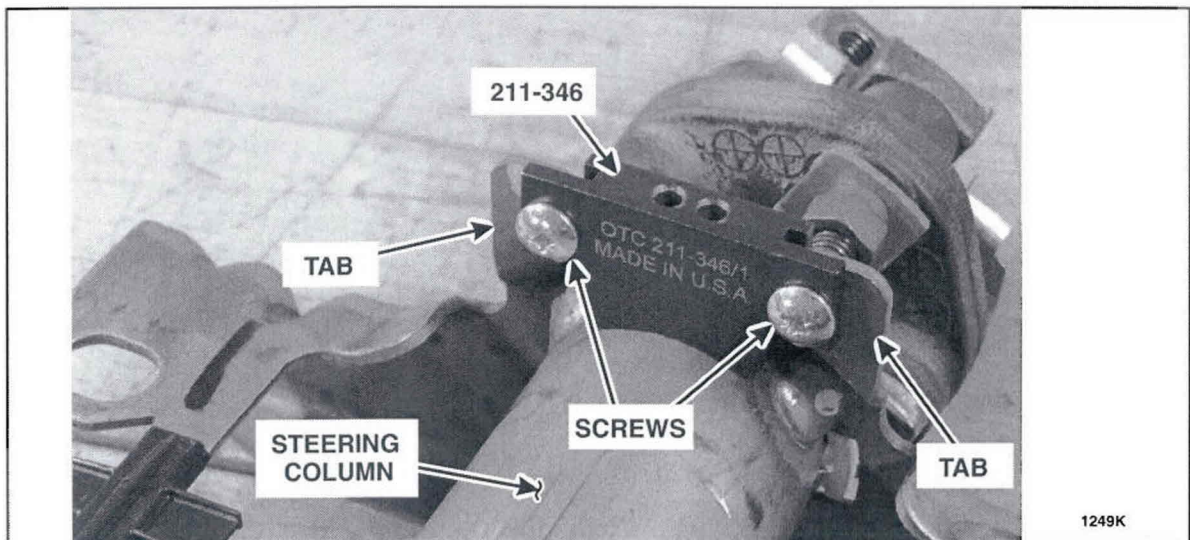

FIGURE 11
5. Install the special tool from Rotunda Special Tool Kit TKIT-2013A-FLM onto the two tabs located on the steering column, and secure with the two supplied screws. See Figure 11.